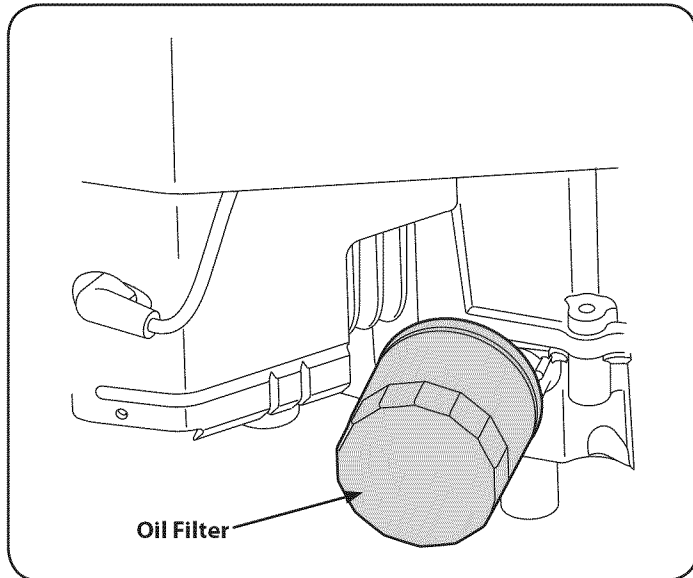

Figure 24
- Clean the area around the oil filter. Place a container under the filter to catch any oil and remove the filter. See Figure 24.